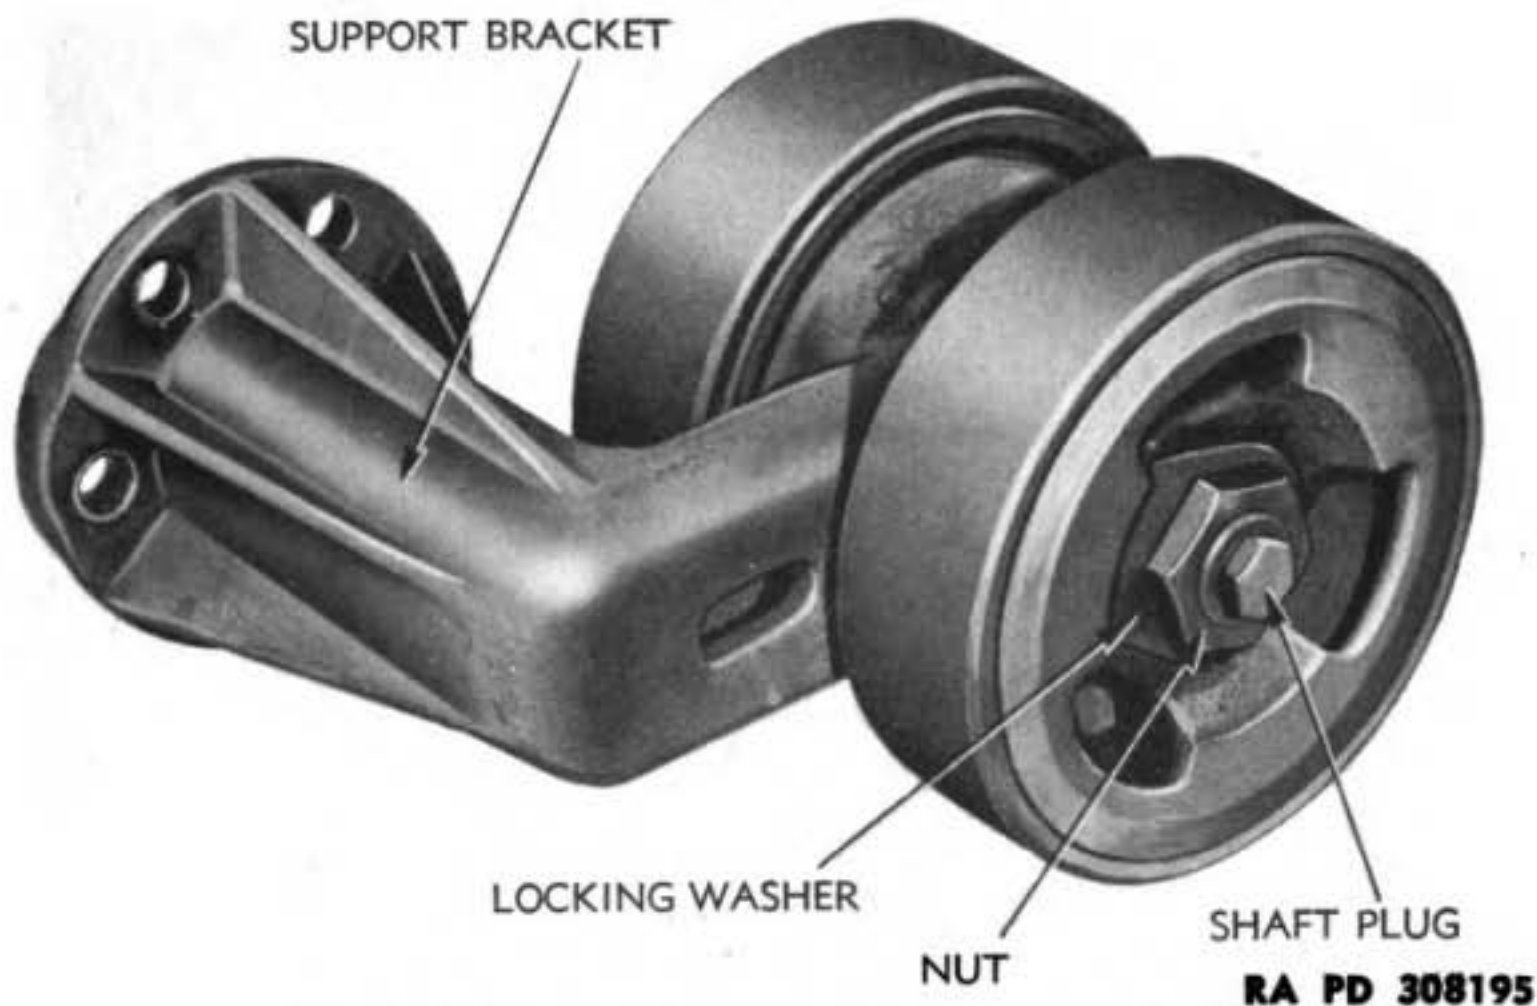

Figure 93 – Track Support Roller (First Type)
(4) **INSTALL ROLLERS ON ENDS OF SHAFT.** Tap or press rollers onto ends of shafts with open sides of rollers toward bracket (fig. 93). Place lock washers on ends of shaft with flat edge of washer against one of the spokes of the roller, then install nuts and tighten securely. Bend a section of round part of washer over against one side of nut